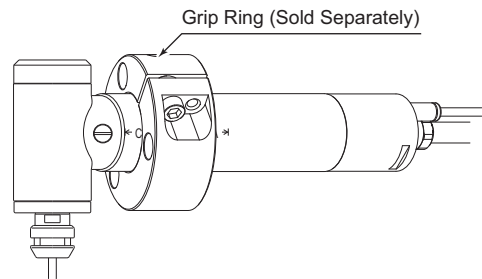

Fig. 14
* When installing the Brushless Motor Spindle, it is recommended to use a "GR - 30 Grip Ring (sold separately (Fig. 14))". If the GR - 30 Grip Ring cannot be used due to the restriction of dimension and space, install as shown in ② below.